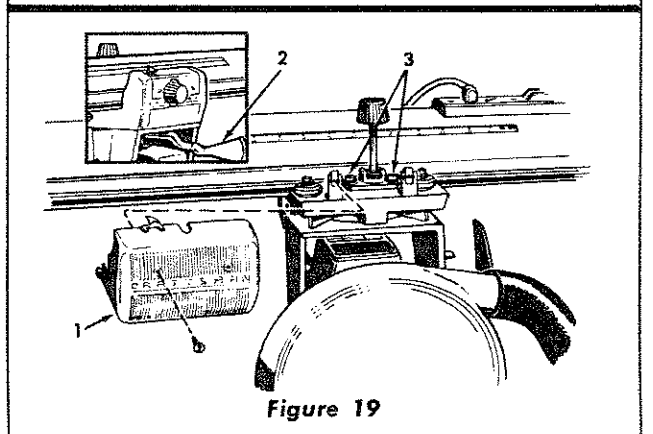

Figure 19
- a. Remove the left-hand carriage cover (1, figure 19).
- b. Loosen the yoke clamp handle (2).
- c. Loosen (slightly) the two hex-head machine screws (3).
- e. Lock the yoke and tighten the two hex-head machine screws (3).
- g. Install carriage cover (1, figure 19).